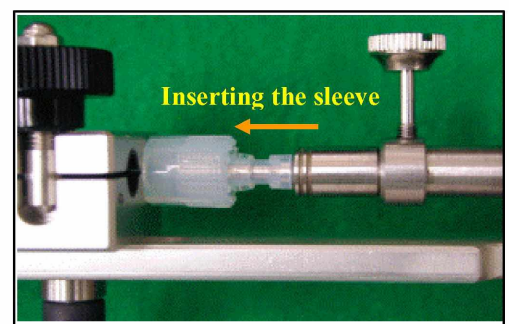

Fig. 25 - Inserting the sleeve
- Grip the lever, and the sleeve will be inserted into the tube (see Fig.25).